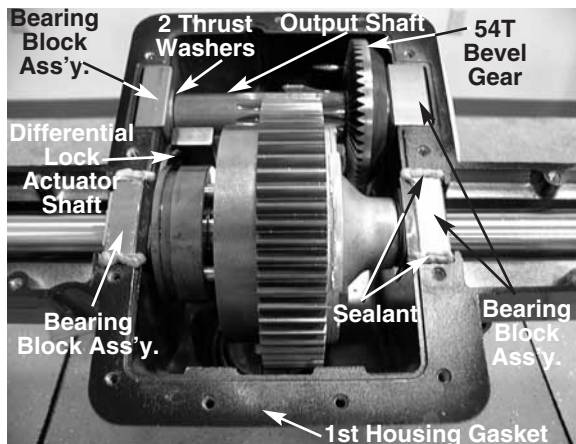

FIGURE 3.
24. Install the output shaft assembly. See figure 3.
25. Install the complete internal differential assembly and the differential lock actuator shaft at the same time. See figure 3.
NOTE: Make sure the bearing block assemblies are seated properly. See figure 3.
NOTE: Loctite 5999 or equivalent is recommended for sealant. See figure 3.
27. Place the new differential housing gasket directly above the inner hardware holes. See figure 3.